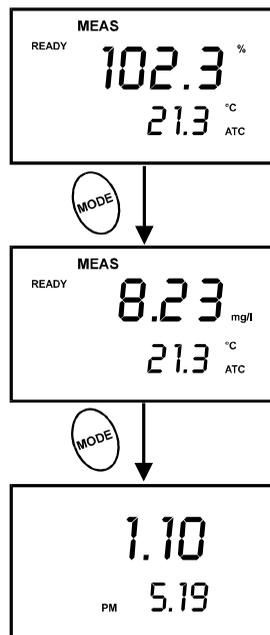

Figure 9: Change measurement mode
2. Press the MODE key to select the % saturation mode. See figure 9.